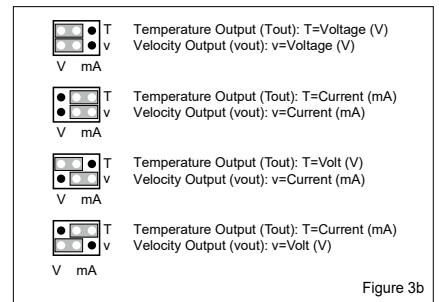

Figure 3b
1) Select the output mode, Current (4-20 mA) or Voltage (0-10V), by installing jumpers as shown in Figure 3b. Both outputs, Temperature (T) and Velocity (v), are configured separately.